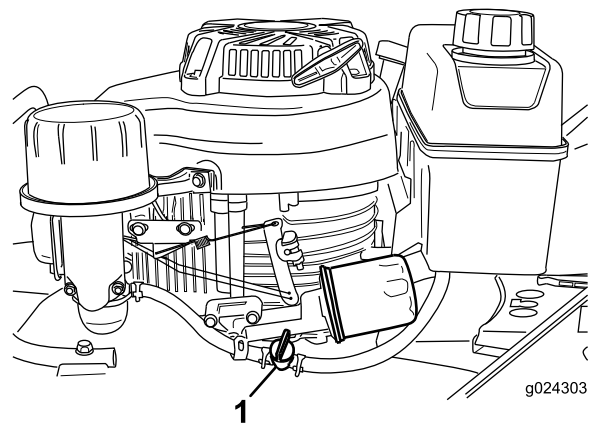

Figure 16
2. Open the fuel valve (Figure 16).
Note: Close the fuel valve (Figure 16) if you will not be starting the engine soon afterward.